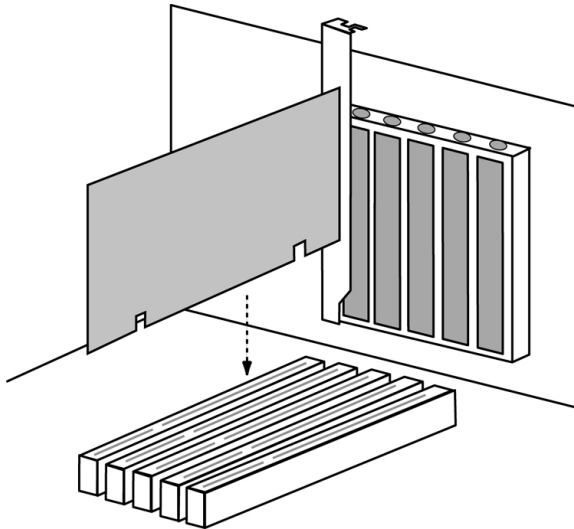

Figure 1. Insert the FastTrak card into an open PCI slot
The FastTrak TX2plus Serial ATA RAID card fits into any available PCI slot on your PC's motherboard (see Figure 1, below):
3. Install the FastTrak Serial ATA RAID card into the open slot (see Figure 1 below). Secure the bracket to the system's frame.